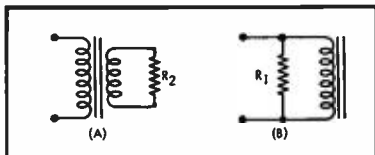

Fig. 4. When the ratio of primary to secondary turns equals n , the transformer and resistance of (A) can be replaced by (B), where $R_1 = n^2 R_L$.
The output transformer itself is again a little more troublesome. The practical circuit is that of (A) in Fig. 4, two separate windings coupled by the iron core with the second winding supplying power to the loudspeaker. A start can be made by substituting a resistor R_{LS} for the voice coil to give (B) of Fig. 4, but at the moment the next step will have to be taken on trust for later verification. The transformer ratio, usually denoted by the symbol n , has no effect on the frequency response, so to avoid having to multiply every impedance by n^2 it is simpler to assume that the turns ratio is 1:1, the two windings having equal numbers of turns.